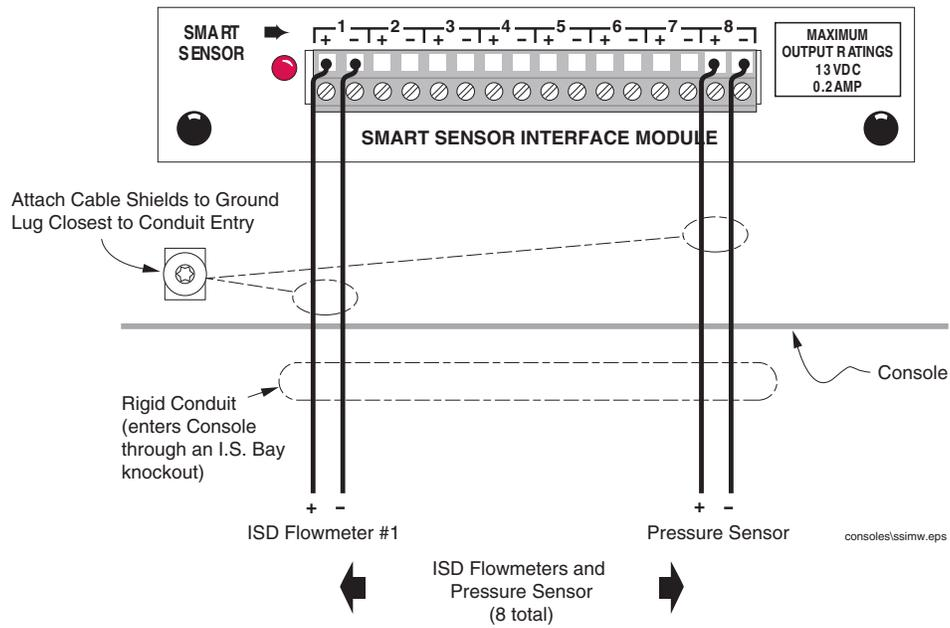

Figure 18-6. Connecting Vapor Flow Meter to Smart Sensor Interface Module
3. Terminate field wiring into TLS Console and connect to Smart Sensor Module located in the intrinsically safe wiring compartment of the TLS as shown in Figure 18-6. Note: you must observe polarity! Also, the cable length between the console and sensor must not exceed the distance stated in the TLS-3XX Site Prep manual (P/N 576013-879).